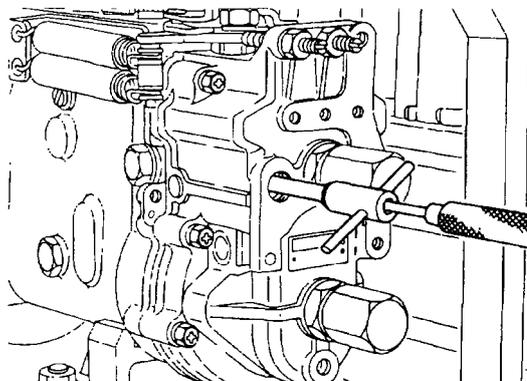

Figure 124 Torque Cam Control Rod Adjustment
- y. Set the pump speed to 225 and, using the torque cam wrench (Table 3, Serial 36), adjust the nut on the torque cam control rod (Figure 124) to bring the control rack to 11.15 mm. Once the correct adjustment has been made, lock the adjusting nut with the lock screw.